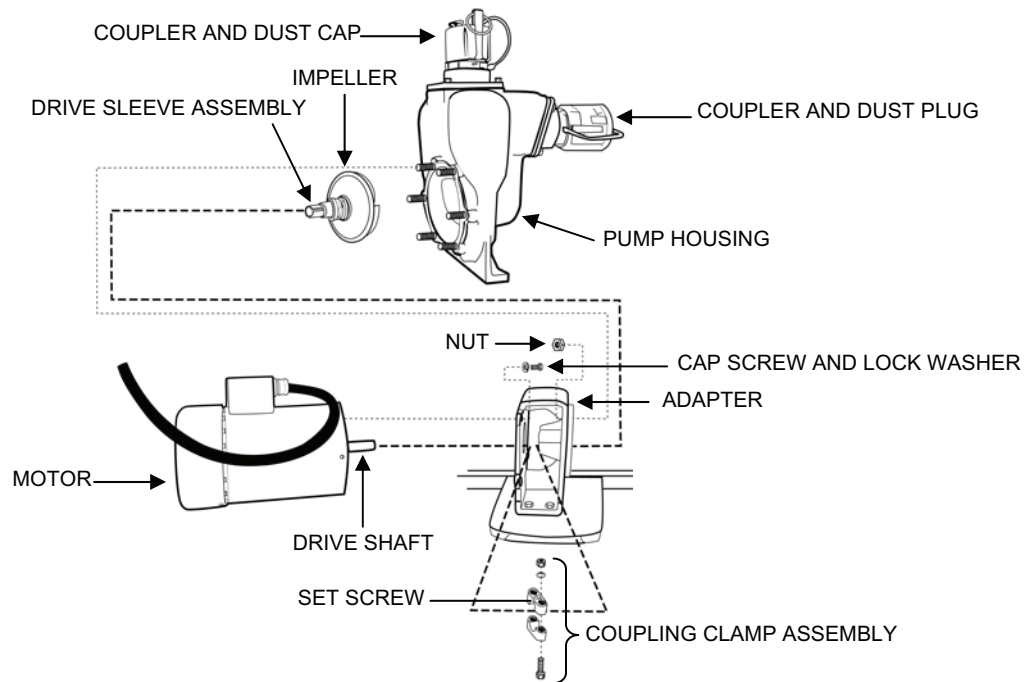
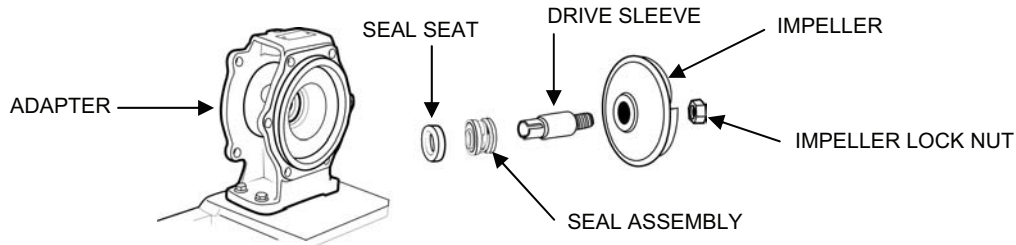

Figure 4. Pump P-7 Electric Motor Replacement.
Figure 5. Drive Sleeve, Impeller, and Seal Assembly.
Replace the P-7 Pump electric motor as follows (see Figure 4 and Figure 5):
- f. Remove the lock nut and drive sleeve from the impeller (see Figure 5). Discard the sleeve and the seal assembly. Attach the new sleeve to the impeller using the lock nut.